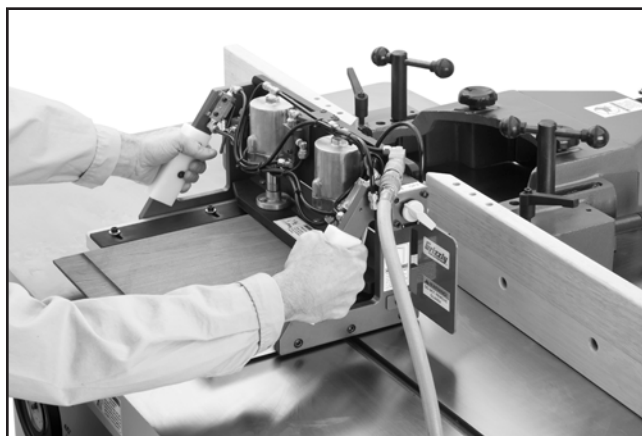

Figure 20. Shaping jig in use.
5. While pressing both clamping switches, as shown in **Figure 20**, move the workpiece slowly against the rotation of the cutterhead until the cut is complete.